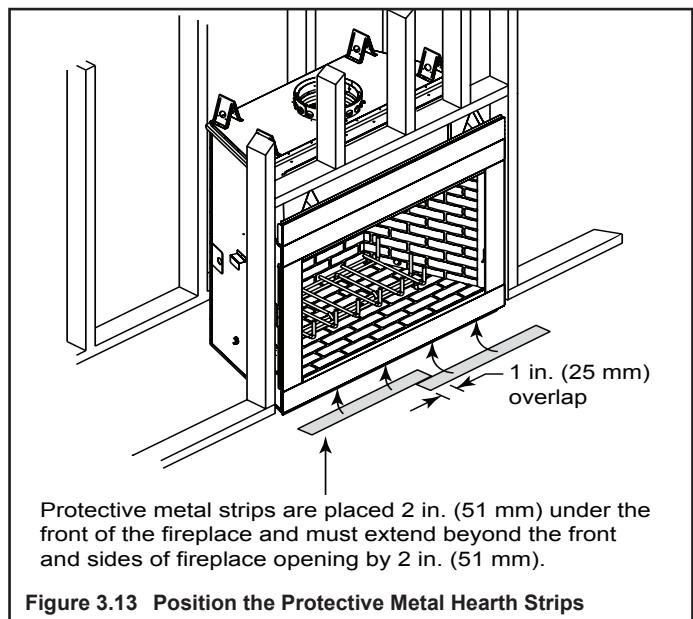

Figure 3.13 Position the Protective Metal Hearth Strips
- Metal strips must extend beyond the front and sides of the fireplace opening by at least 2 in. (51 mm), Figure 3.13.